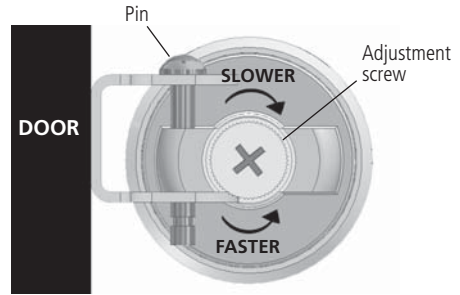

Figure 8
The hook bolts may be activated once the active panel is closed by lifting either the inside or outside handle (Fig. 8).
- A. For faster closing speed, turn adjustment screw to the left (counterclockwise) (Fig.8).
- B. For slower closing speed, turn adjustment screw to the right (clockwise) (Fig.8).